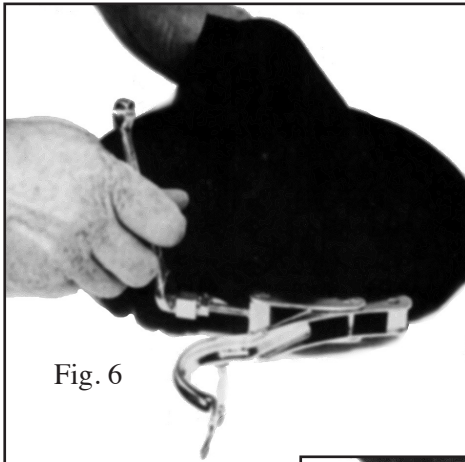
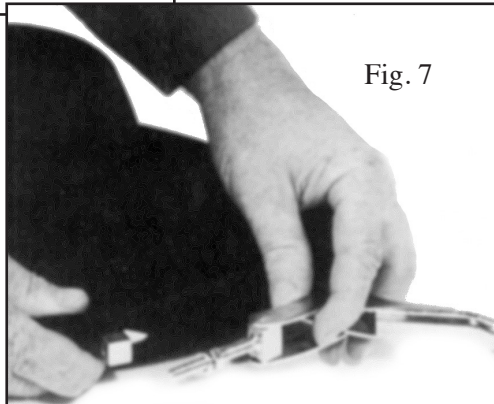

Fig. 6
Fig. 7
3) Remove the neck clamp lock nut (Fig. 6) and slip the threaded neck clamp adjustment bolt out of the retaining block. (Fig.7)